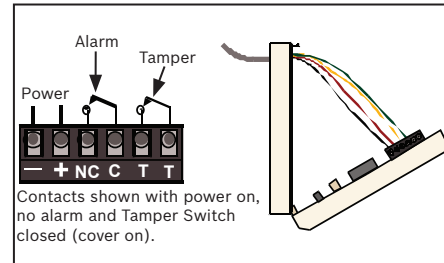

Figure 4.1: Wiring the detector
- Wire the detector as shown in Figure 4.1. Leave extra wire so the case can be opened for testing.